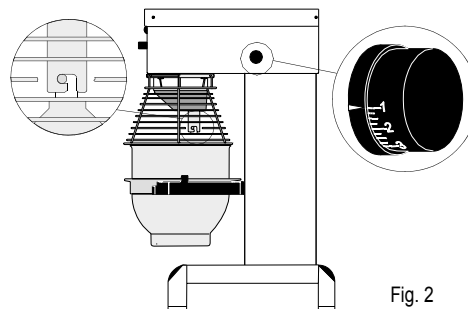

Fig. 2
- C Place the bowl in the bowl arms. OBS: The bowl arms must be in lowest position and the bowl must be pushed all the way into the bowl arms. The “centre ear of the bowlring must be facing the mixer. Place the mixing tool in the bayonet shaft. The pin on the tool must be turned into the bayonet hole (fig.2).